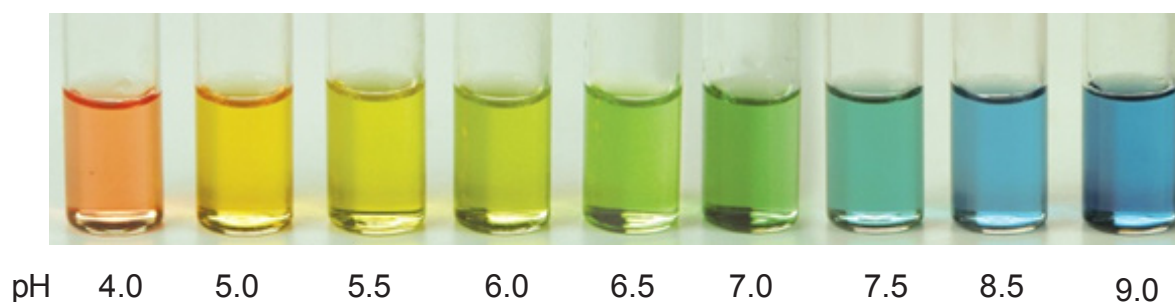

Fig. 1.1
- (a) (i) Use the colour chart in Fig. 1.1 to determine the pH starting of the glucose solution.